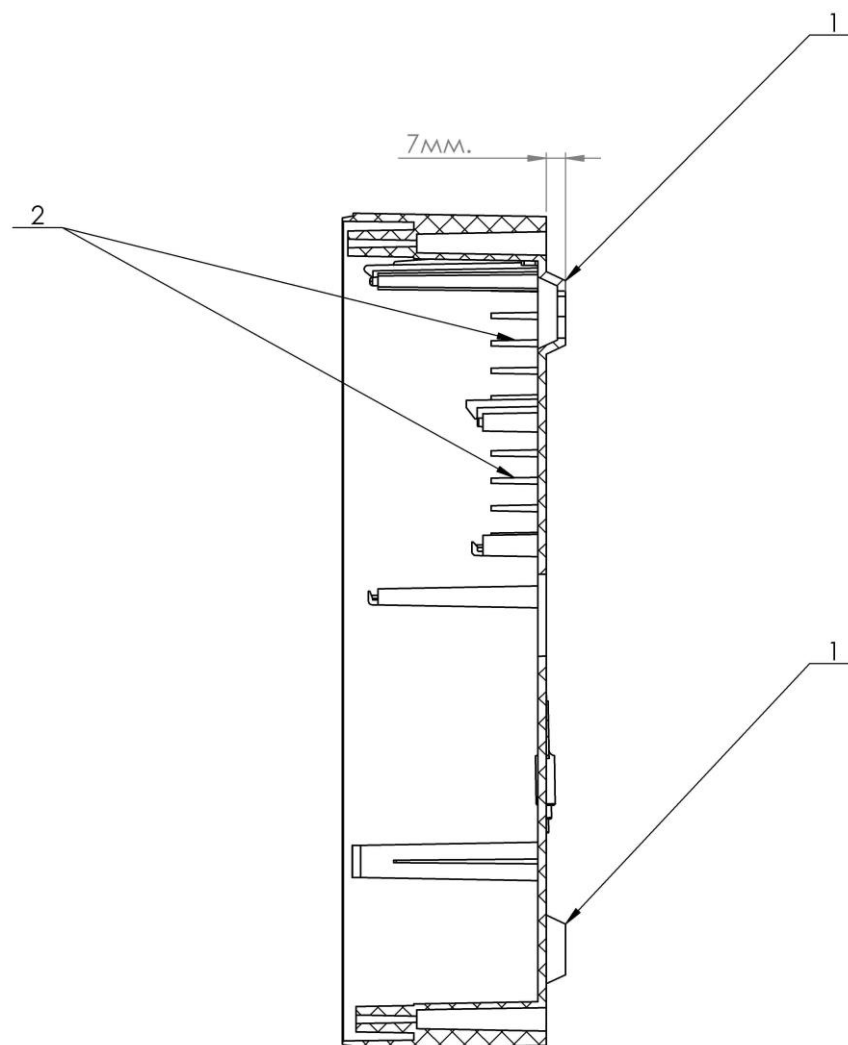

Fig.8
- The distance between the wall and the backside of the FCP cabinet is 7 mm (fig. 8). For correct installation, there should be no cables or obstacles in the gap between the cabinet and the wall, which are more than 7 mm (fig.8, pos.1);
- The dedicated cabinet openings (fig.8, pos.2) must to be free, for proper heat convection.